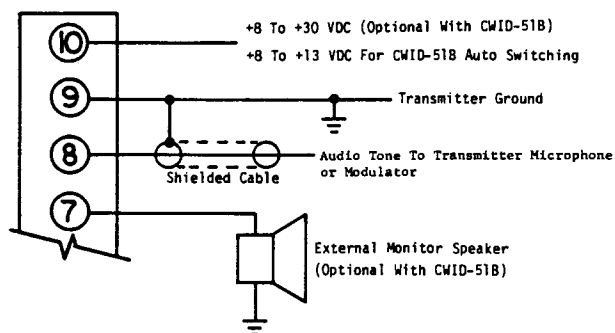

Figure 6 Power and Audio Connections
4. Audio Outputs. Connect the transmitter microphone or modulator input line to Terminal 8 using shielded wire as shown in Figure 6. If it is desired to directly monitor the audio output of the CWID-50B a high impedance speaker such as the Calectro S-206 with 100 ohm voice coil may be connected between Terminal 7 and ground (Terminal 9). The CWID-51B is equipped with such a speaker internally but a second remote speaker can also be connected as above. Alternatively, the audio on Terminal 7 can be used as a high level (4 volts peak-to-peak) modulation signal.
6. DC Power Supply. Two wires (unshielded) should be used to connect the CWID-50B to a source of +8 to +30 VDC. See Figure 6. These connections optionally may be used to power the CWID-51B, although the maximum voltage should be limited to +13 VDC if the automatic power switchover feature is desired. The power supply voltage must remain on continuously and be capable of supplying 250 ma.